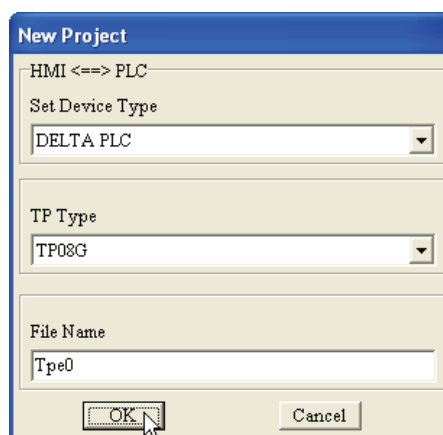

Figure 1-29
Step 2. After selecting **File (F) > New**, to create a new project, the New Project dialog box will display (Figure 1-29).